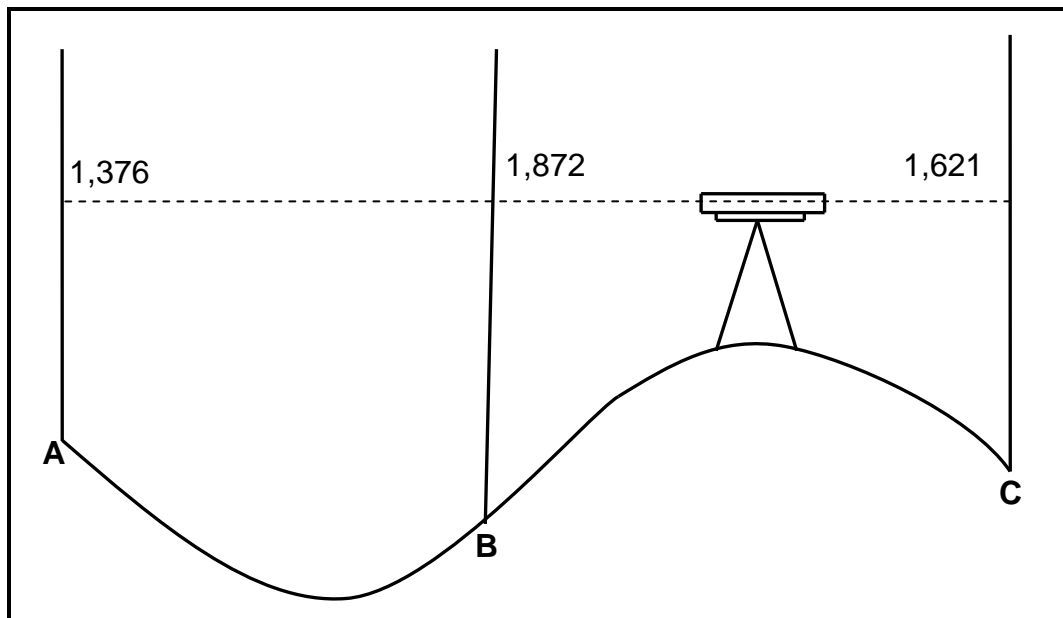

FIGURE 2.3
2.3 FIGURE 2.3 below shows different readings taken with a dumpy level. Study the given readings and answer the questions that follow.